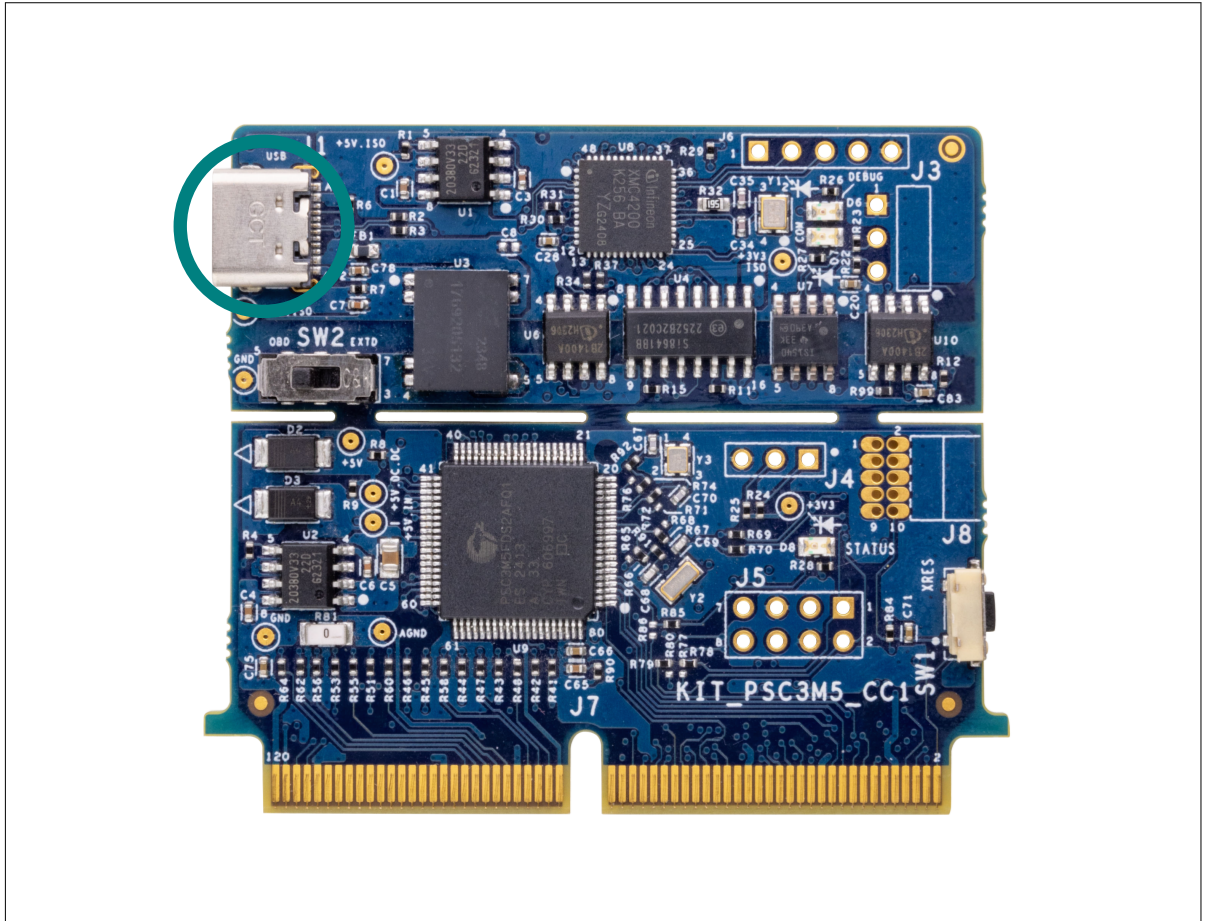

Figure 4 Connect USB cable to USB connector on the board
1. Connect the board to the PC using the provided USB cable through the JLink USB connector, as shown in Figure 4. It enumerates as a USB composite device if you are connecting it to your PC for the first time